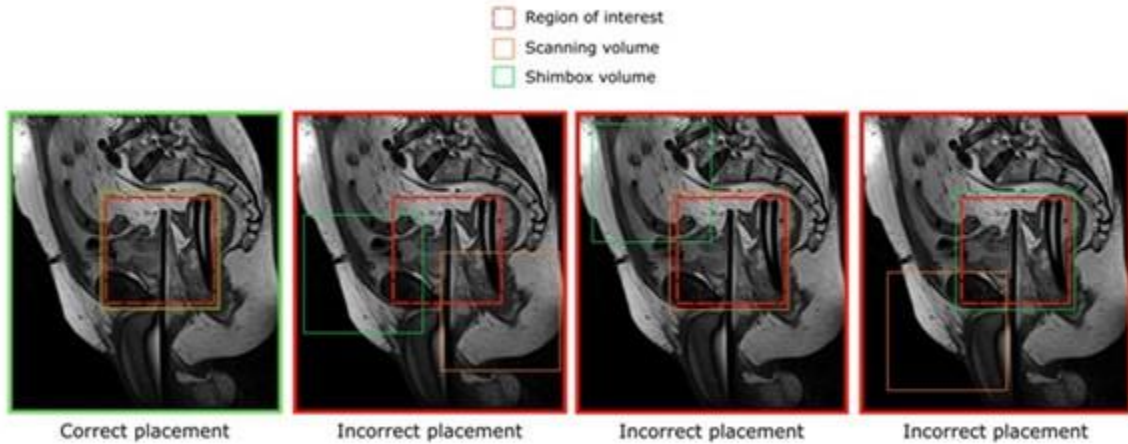

Figure 37: Examples of correct and incorrect placements of the shim box
1. MRI Technologist: Open AX THERM for editing in the Offc/Ang tab, change the AP, RL, and FH values for both Stack Offc. and Ang (*Figure 38*). to match those in TDC. Do the same for the shim volume. If the shim volume includes more than just the patient anatomy (e.g. air), reduce the size of the shim box (*Figure 37*).